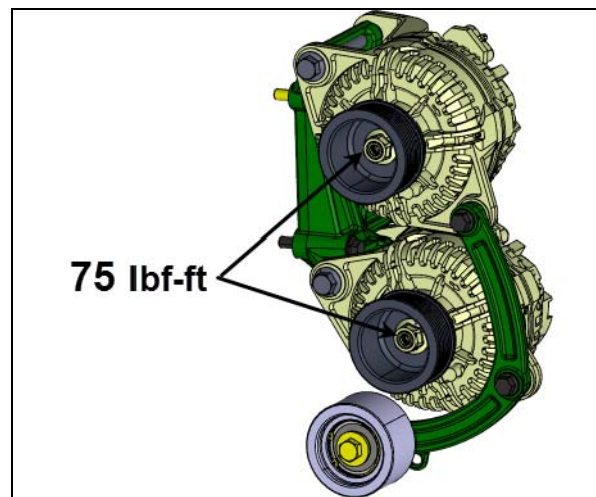

FIGURE 25
13. Mount pulley onto alternators (**FIGURE 25**). Use Loctite 243 blue on threads. Tighten pulley mounting nut to **75 lbf-ft**.